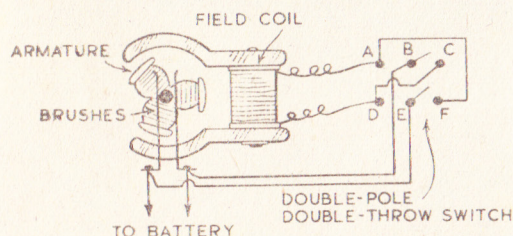

Fig. 1—Connections for reversing switch
Fig. 1 shows how a motor with a wound field coil (e.g., not having a permanent magnet) can be reversed. The direction of rotation of the armature depends upon the magnetic polarity of the armature and field magnets. When the double-pole double-throw switch is thrown to the right, current goes from (B) to (C), and from (E) to (F). When the switch is turned to the left, current goes from (B) to (A), and from (E) to (D).